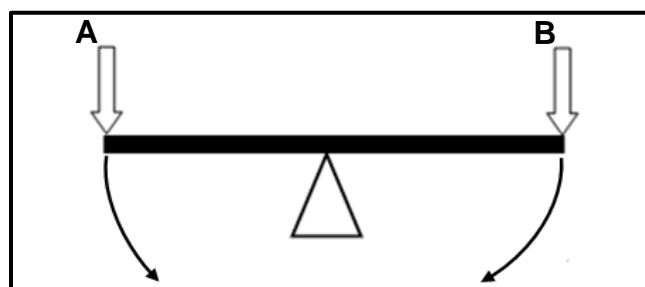

FIGURE 4.13
4.13 What type of movement will force **A** cause on the see-saw in FIGURE 4.13 below?